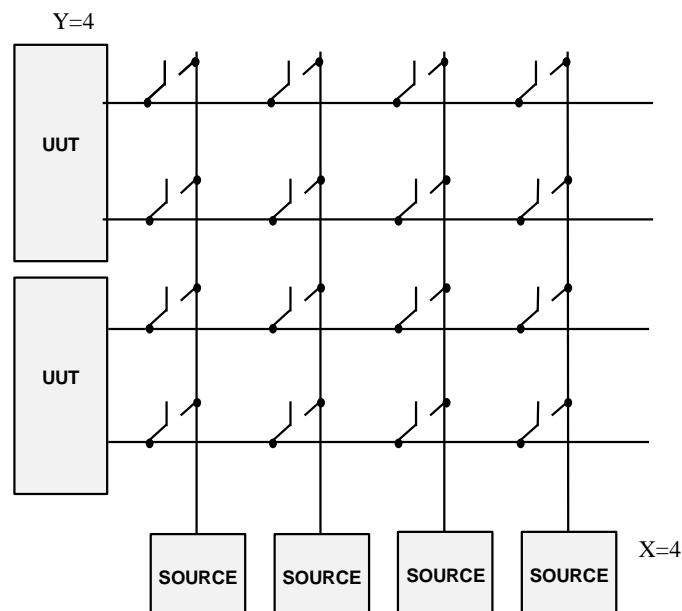

Figure 2-9: Switch Matrix Topology
The Switch Matrix Topology connects multiple inputs to multiple outputs. With this configuration, multiple instruments are often connected to multiple points on a UUT. Though the switch matrix topology is the most complex, it certainly is the most versatile. Figure 2-9 illustrates the switch matrix topology in simple terms.
1. Stubs (unused relays) may generate electrical noise if the frequency is above 10 MHz. If you are using a switch matrix to switch high-frequency signals, use the "cleaner" switch paths with shorter stubs. For example, the bottom-left switch shown in Figure 2-9 is the "cleanest" path since it has the shortest stubs. The top-right switch in the same figure is the "noisiest" path as it has the longest stubs.